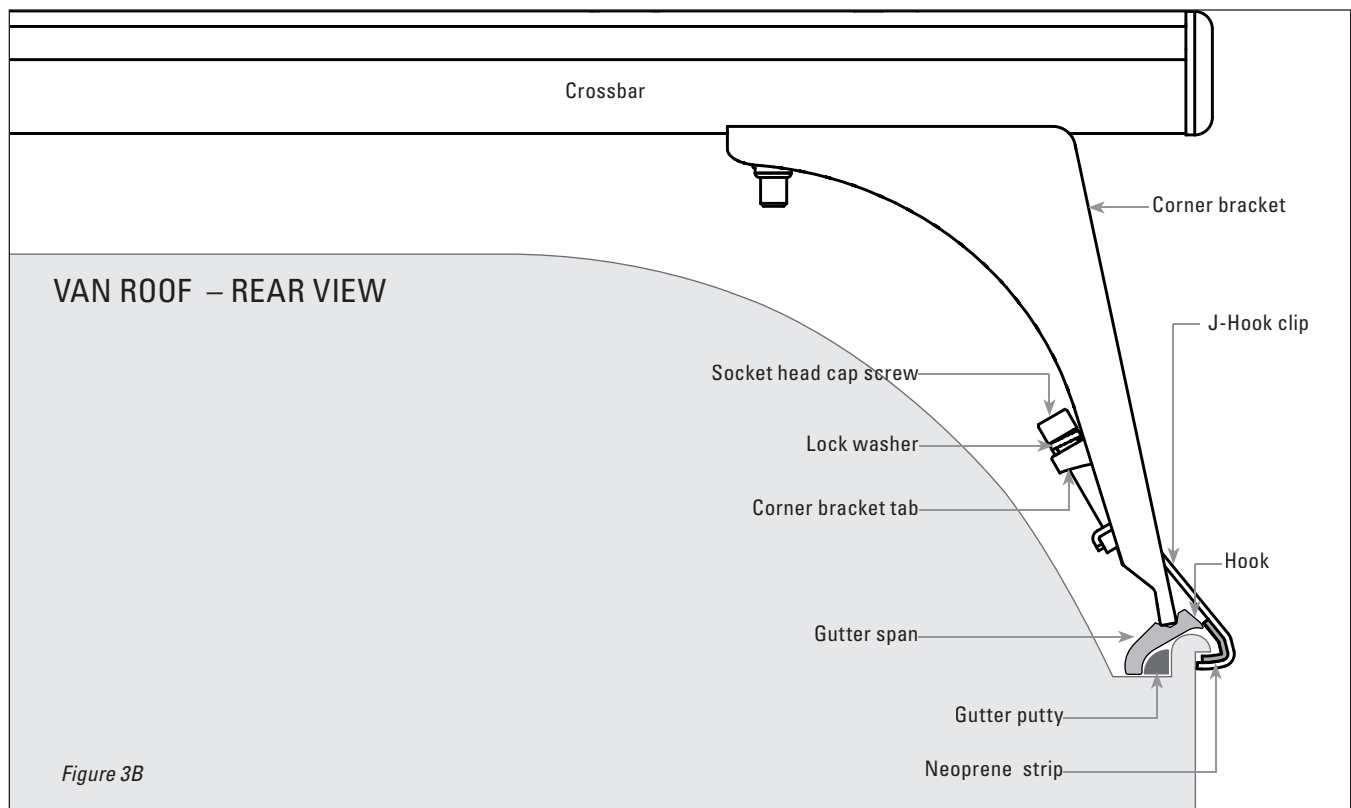

Figure 3B
8. Slide 2 Gutter Spans under each Corner Bracket so that they line up under the slots as shown, with the "V" Groove facing up. The "Hook" of the Gutter span must engage the upper edge of the gutter, with the opposite end positioned in the middle of the gutter groove (see Fig 3B).
9. The lower edge of each Corner Bracket fits snugly into the top of the Gutter Span. Place the J-Hooks around the outside edge of rain gutter (see Fig 3B).